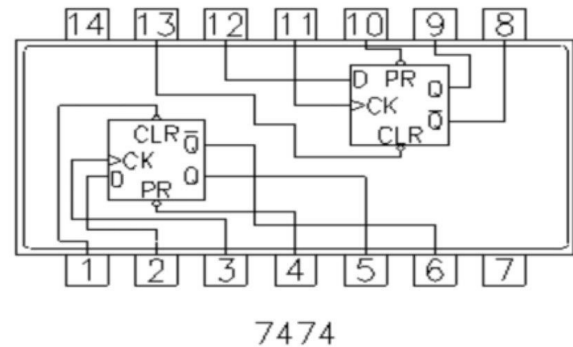

Fig. 2. Pin out of 7474 IC
- 3) Now, the circuit for shift registers is made using 4 D-Flip flops. First, use the use two 7474 ICs. The pin out for 7474 IC is shown in figure 2